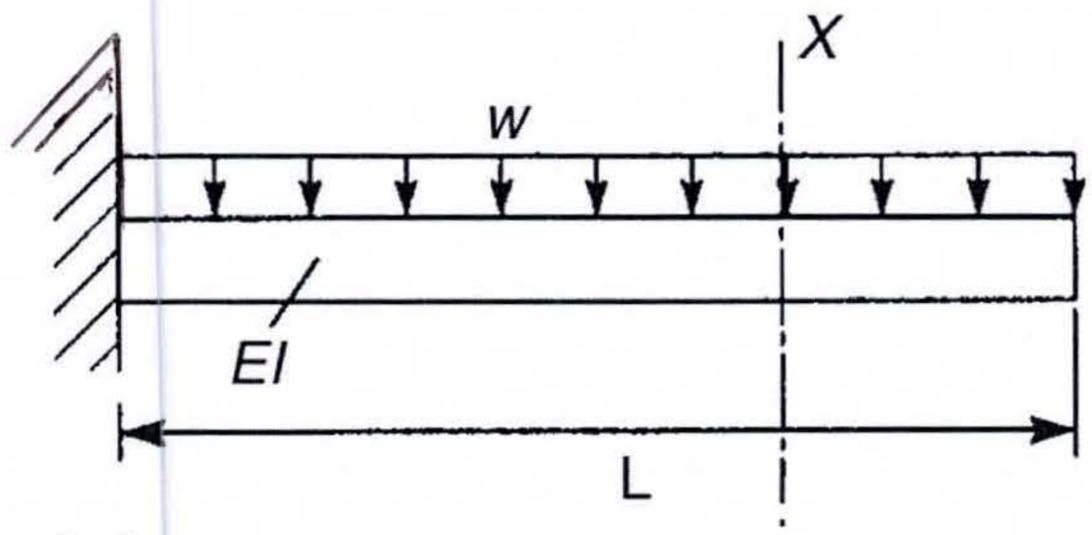

Fig .5
- c) Fig . 5 shows a cantilever beam